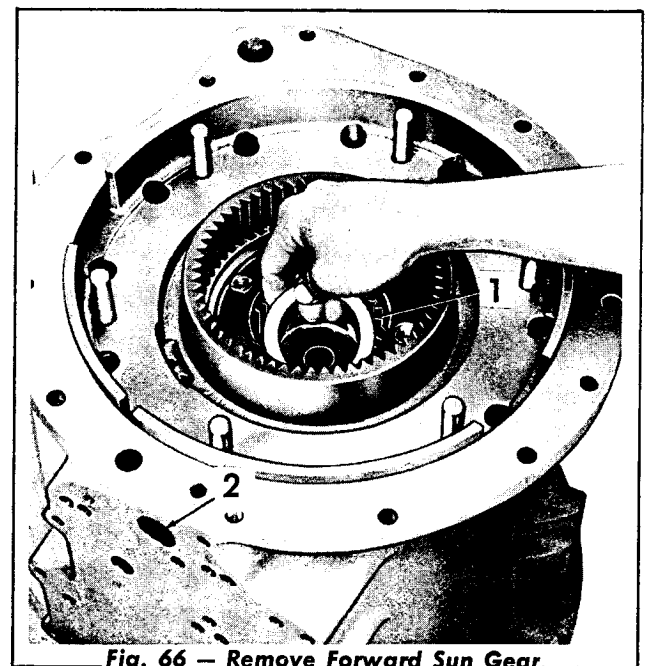

Fig. 66 — Remove Forward Sun Gear Thrust Washer
4. Remove the forward sun gear thrust washer (Fig. 66). Remove the clutch anchor pin from the transmission housing.